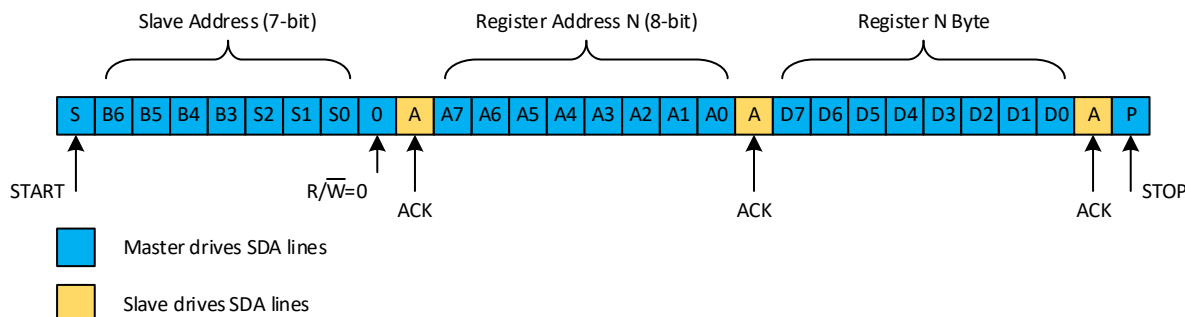

Figure 28: I²C Write Single
- To stop the communication, the controller shall send a stop condition (Figure 28)